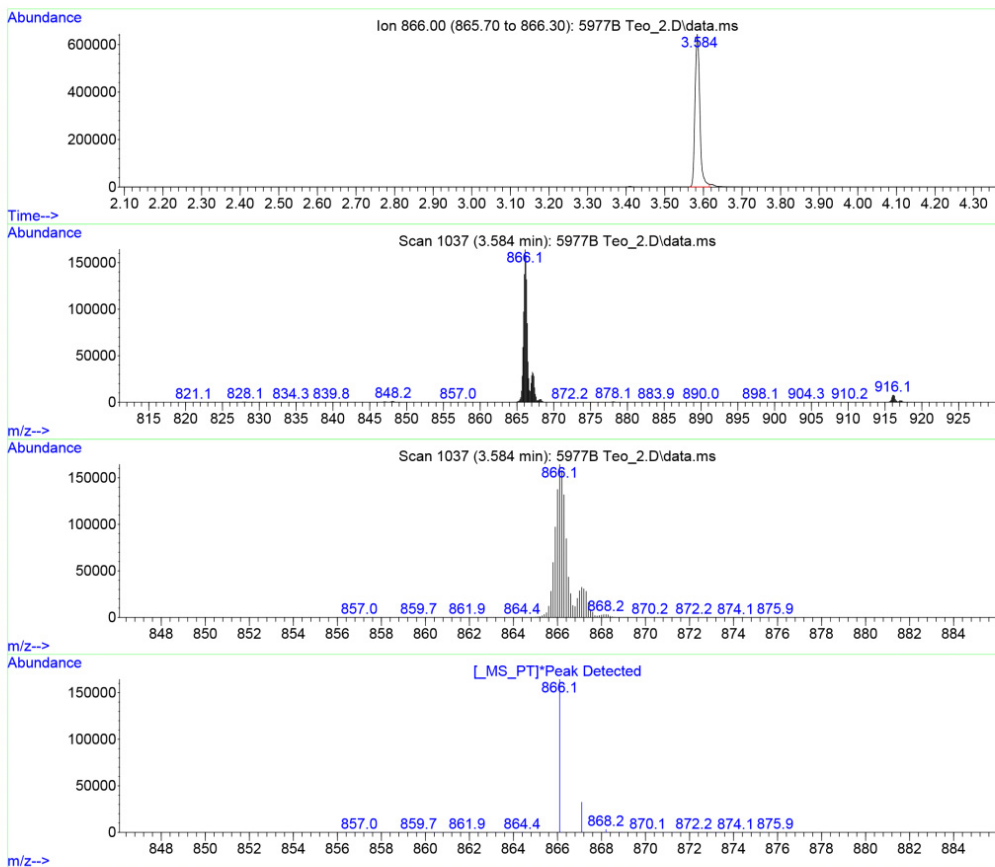

Figure 43. PFHT high mass report
- 7 The run is completed, and results are printed within 5 minutes. (See **Figure 43** on page 133.)